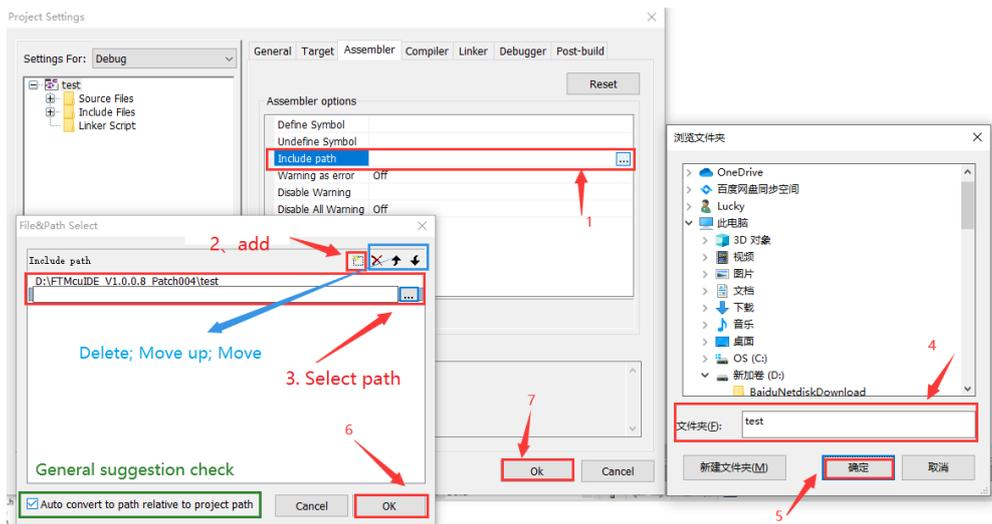

Figure 1-31
- Include path: Add the address of the header file, as shown in Figure 1-31 below;